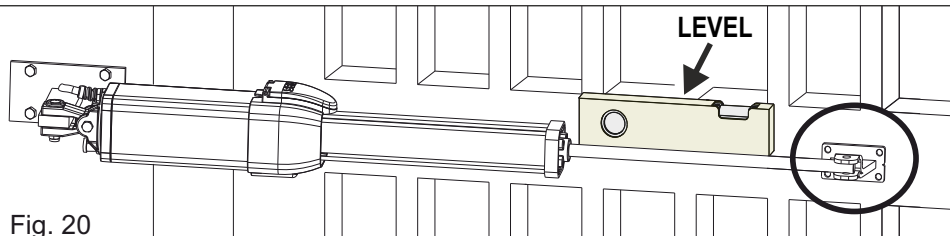
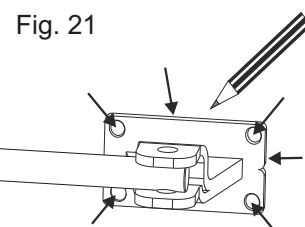

Fig. 20
Fig. 21
- Place the front bracket on the gate and place the shaft in the housing - Fig. 20
- With the help of a level - Fig. 20, **make sure that the operator is in a perfectly horizontal position** then mark the front bracket and the holes position - Fig. 21